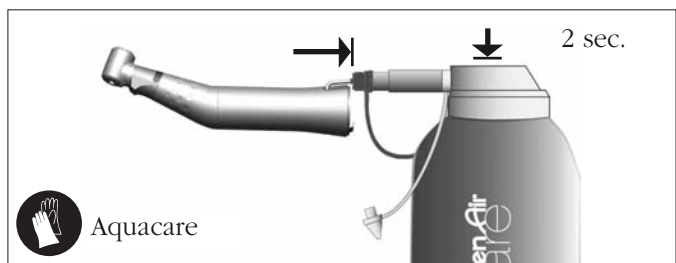

fig. 3
- Wash out the physiological liquid from the duct by spraying (2 secs.) in the tube at the rear with **Aquacare fig. 3**.
- After the bath, wash out the liquid of the bath in the irrigation system tube by spraying (2 secs.) in the tube at the rear with **Aquacare, fig. 3**.